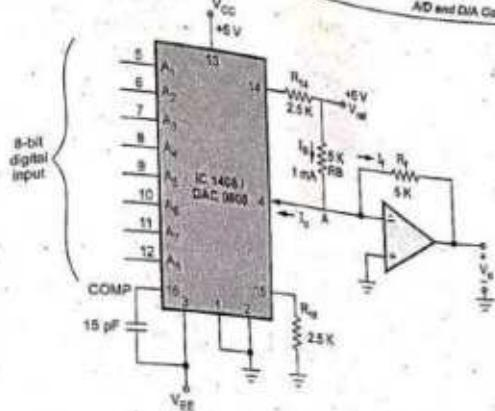

Fig. 6.3.3 Interfacing DAC in the bipolar range
- The circuit shown in the Fig. 6.3.3 gives output in the unipolar range. When digital input is 00H, the output voltage is 0 V and when digital input is FFH (1111 1111)2, the output voltage is + 5 V. This circuit can be modified to give bipolar output.
- Fig. 6.3.3 shows the circuit for giving output in the bipolar range. Here, resistor  $R_B$  (5 K) is connected between  $V_{ref}$  and the output terminal of IC 1408/DAC0808. This gives a constant current source of 1 mA.